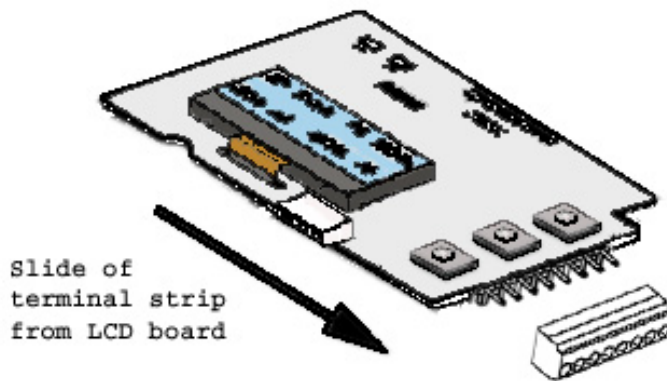

Figure 15
4. The wiring diagram for the FF ICoT-IS is shown in Figure 15 below. The wiring diagram for your unit is also shown on the inside of the enclosure cover.
10.2.2. Locate terminal strip and carefully disconnect (See Figure 15).